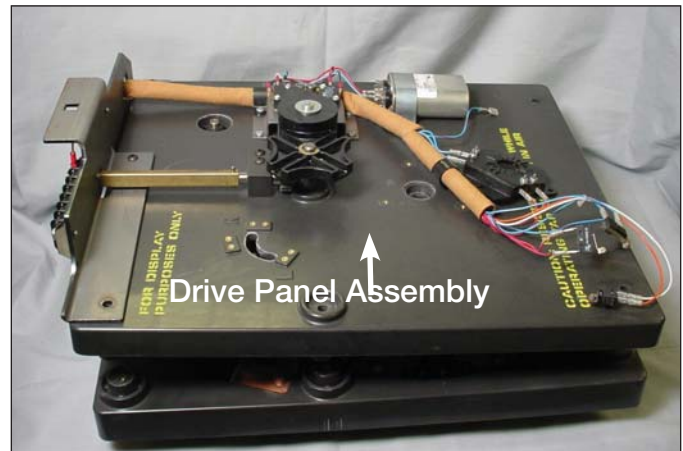

Figure 31.
2. Place and align the tap changer drive assembly section on top of the contact panel assembly. See Figure 31.